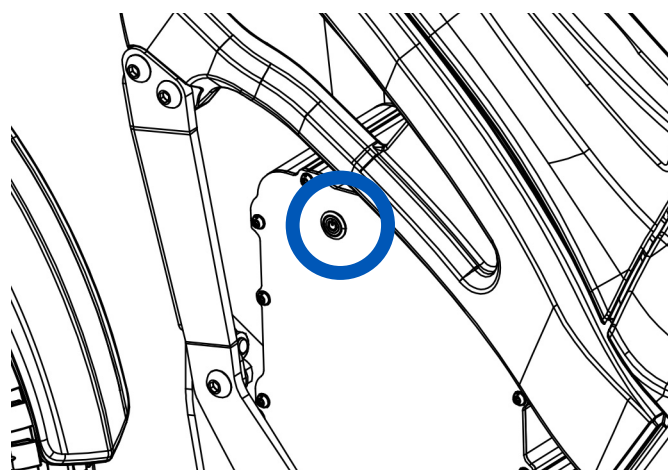

Fig. 13
- 2- Turn off the battery (Figure 13).